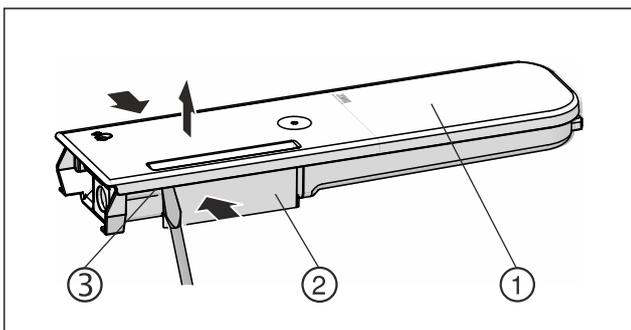

Fig. 134
- ▶ Push the water tanks Fig. 134 (2) together, leverage the cover Fig. 134 (1) carefully over the latching tabs Fig. 134 (3) and lift it up.
- ▶ Move the cover Fig. 134 (1) slightly forwards and back, and remove to the top.